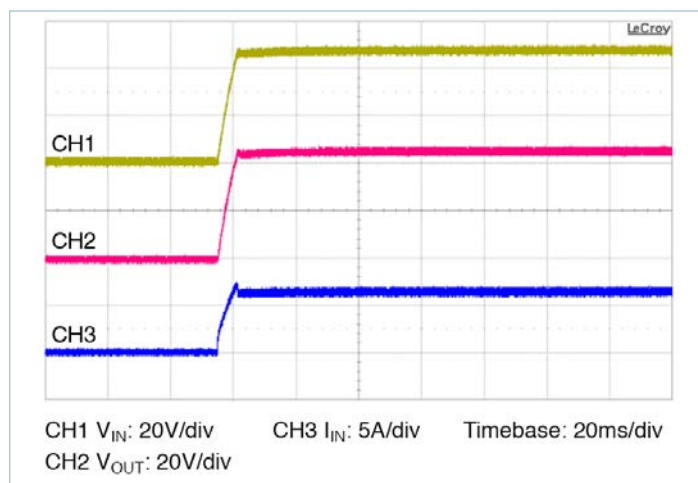

Figure 13 — Start up from application of V_{IN} :
- **Normal operation (VC applied prior to V_{IN}):** In this case the controller is active prior to ramping the input. When the input voltage is applied, the VTM module output voltage will track the input (See Figure 13). The inrush current is determined by the input voltage rate of rise and output capacitance. If the VC voltage is removed prior to the input reaching 26V, the VTM may shut down.